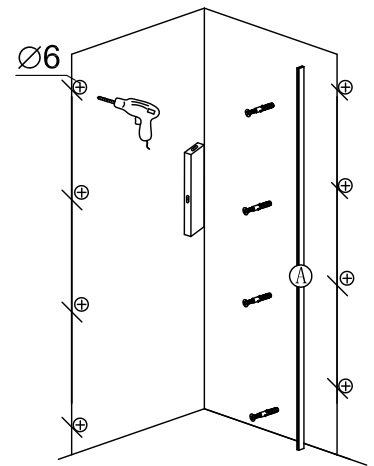

Fig.2
- (Fig.2) Mark drilling positions on the wall as per the size of your shower enclosure, referring to the fig.2 and mount alluminum wall channel (item A) using 4*30 (item E) screws with wall plugs. Pay special attention to